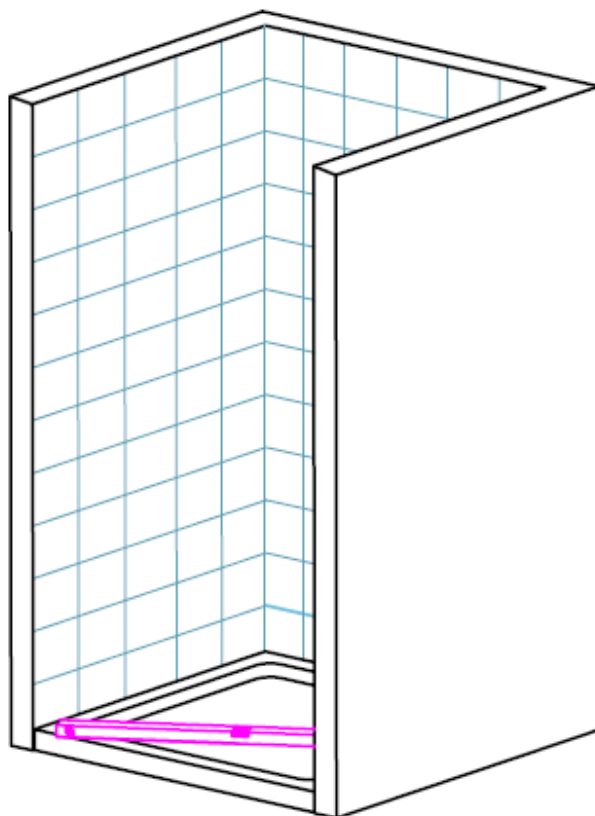

Figure 1
1. Using the spirit level to make sure the frame between the walls is horizontal, as showed in figure 1